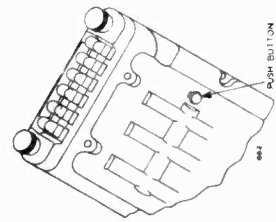

Fig. 2A—
7. When the last pushbutton has been properly set up, it is necessary to release it from the latched-in position before the tuner mechanism can be locked. To release this pushbutton, press the pushbutton release pin on the bottom of the tuner unit. This will trip the latching mechanism and all the pushbuttons will be released to out position. (See Fig. 2A.)